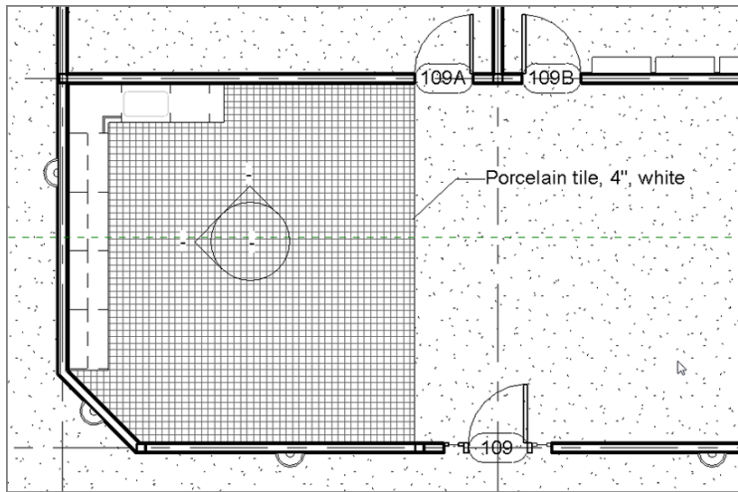

FIGURE 11.69: Placing the “Porcelain tile, 4”, white” note
7. Place your cursor over the tile floor, as shown in Figure 11.69. The tag reads “Porcelain tile, 4”, white.” When you see this tag, pick a point on the tile floor, and then place the note to the right, as shown in the figure.